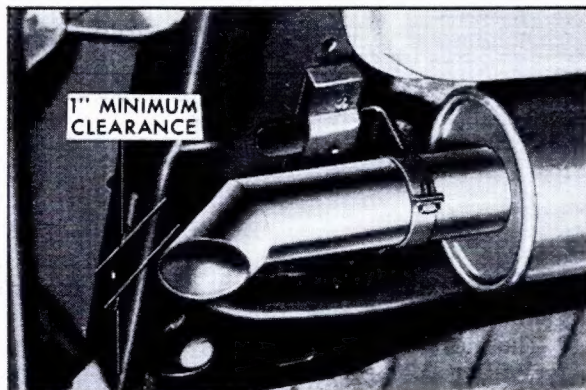

Fig. 8-6 Resonator Outlet Pipe Hanger
4. Position blade of hanger into slot of hanger so that blade sticks out one inch from slot, Fig. 8-6. Tighten blade-to-pipe clamp to 10 foot-pounds.
7. Align resonator on muffler-to-resonator pipe so there is a minimum of one inch between outlet pipe and rear frame cross member, when measured perpendicular to the angle of pipe at outlet, Fig. 8-6.